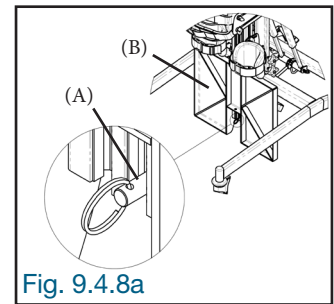
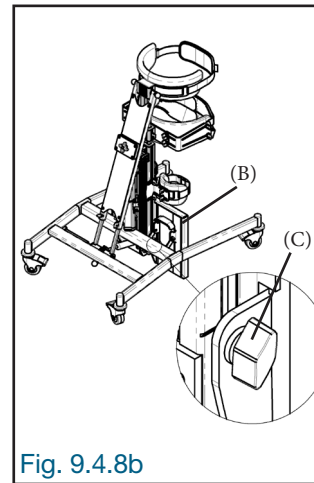
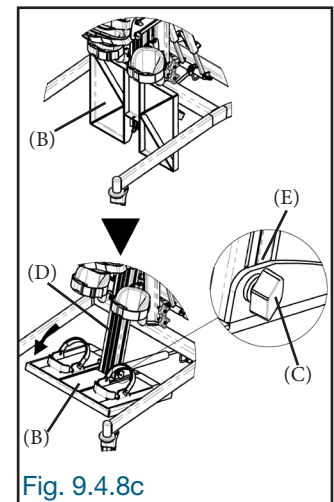

Fig. 9.4.8a
Fig. 9.4.8b
Fig. 9.4.8c
9.4.8 Remove the quick-release pin (A) from under the foot plate (B) (Fig. 9.4.8a). Loosen the locking knobs (C) slightly on each side of the foot plate (B) (Fig. 9.4.8b). Tilt the foot plate (B) downwards so that it is perpendicular to the frame (D). Ensure that it is aligned with the positioning mark (E) (Fig. 9.4.8c). Tighten the locking knobs (C) firmly on each side of the foot plate (B) (Fig. 9.4.8c).